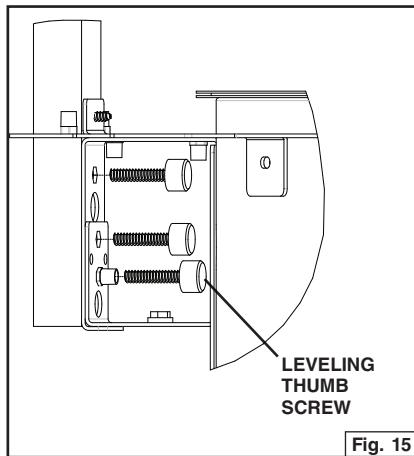

Fig. 15
7. Level the two units with the cook top surface using the leveling thumb screw. Fig. 15.